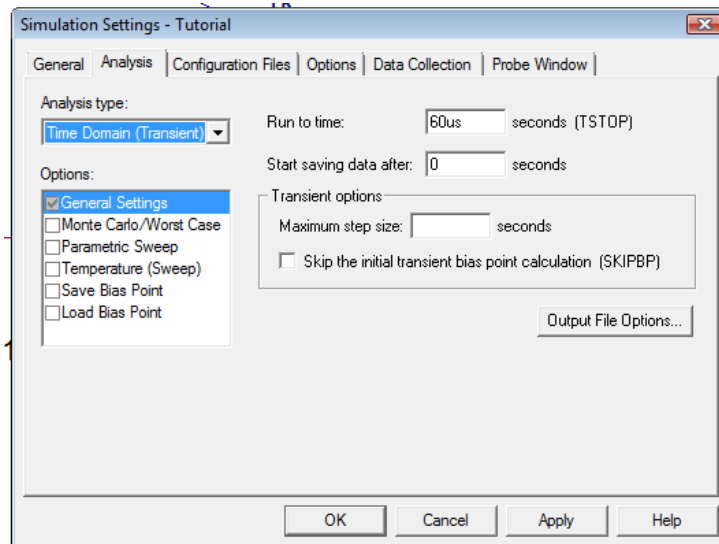
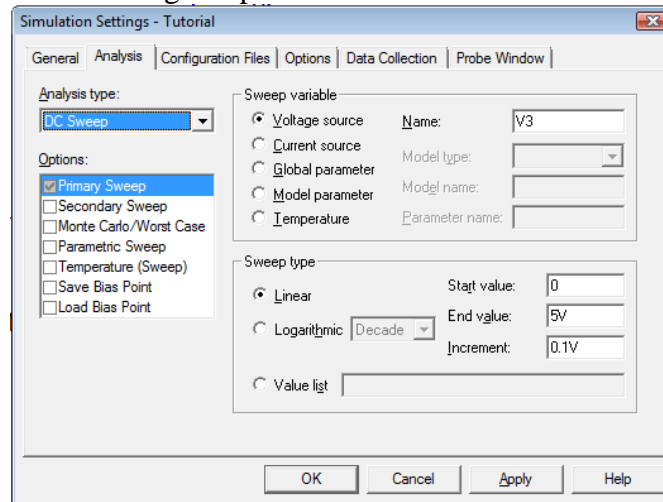
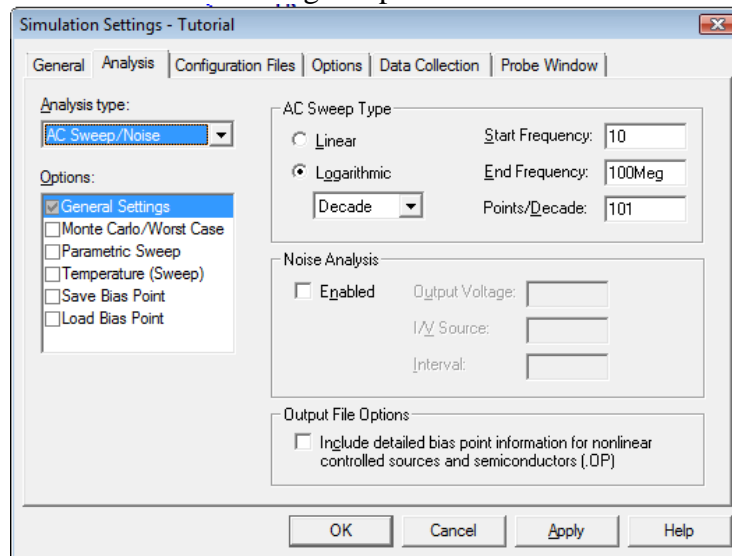

Figure 8
Figure 10
Figure 12
1. Click on PSPICE->New Simulation Profile, give the simulation profile a name, for example Tutorial, and click Create. This will bring up a window shown in Figure 8.
3. This resultant setup window is used to set up a variety of analyses such as DC Sweep, AC Sweep, and Time domain (Transient) analysis as shown in Figure 8. These three are the ones you will use the most.
- Since in Figure 8 the Time domain (Transient) analysis is already setup, press OK and press run under PSPICE menu. Probe window will appear and run automatically. Once the simulation is finished the results can be displayed in the Probe graphical display screen by selecting Trace->Add Trace and then selecting V(M1,d) and V(M1,g), i.e. drain and gate voltages of M1. This will result in the following data display:
Where you enter sweep variable name and start, end and increment values as shown in Figure 10 and click on Apply. Run simulation the same way as for the Time domain analysis and display voltage on the drain of M1. You should get the following plot:
Enter values are shown in Figure 12 and click Apply. Run the simulation and verify that you obtain the following results:
These three screens in Figure 8, Figure 10, and Figure 12 are pretty much self-explanatory. In each case, intelligent choices must be made for the start and end points.